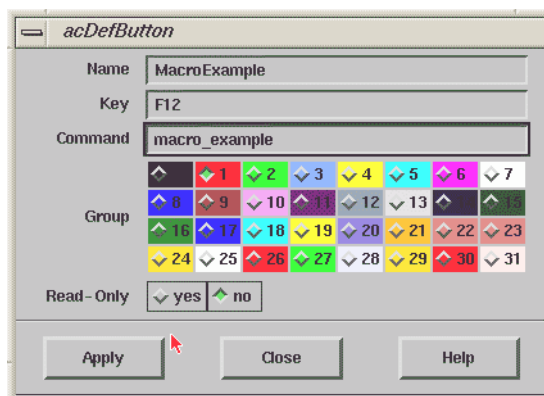

Figure 8-9 Defining the user button properties.
4. **Name the user button.** In the acDefButton dialog box type a name for the button. (See Figure 8-9.)
6. **Enter a command line.** Enter the macro filename without the *.xmc extension. (See Figure 8-9.)